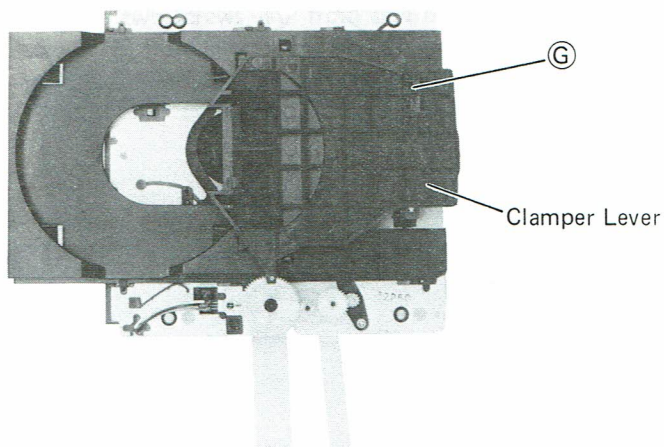

Figure 9
1. Push clamber lever downward and push hook (G) horizontally, and then the clamber lever will be removed. (Figure 9)